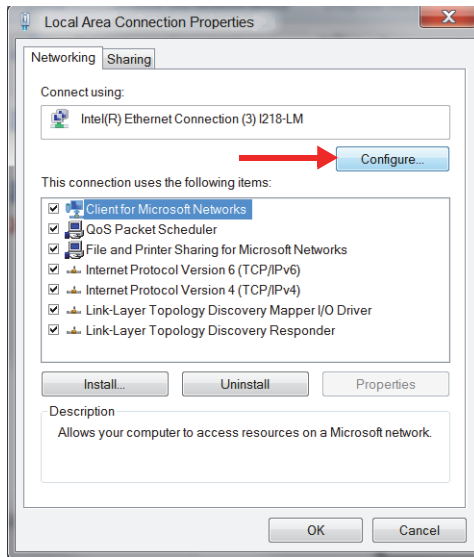

Figure 1-7 Selecting Configure
3. On the **Networking** tab, click **Configure** (Figure 1-7 on page 28).